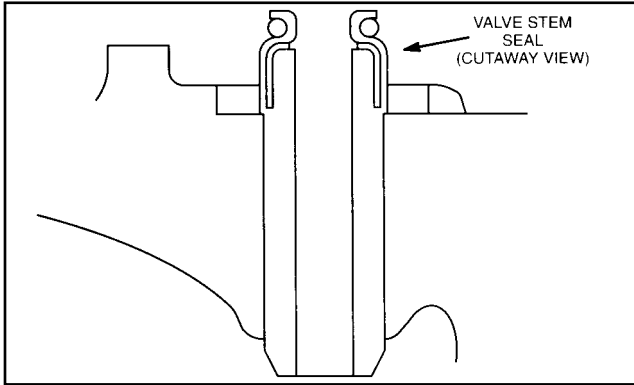

Fig. 19 - Install Valve Stem Seals
- b. Press seal on to valve guide bushing until it bottoms, Fig. 19.